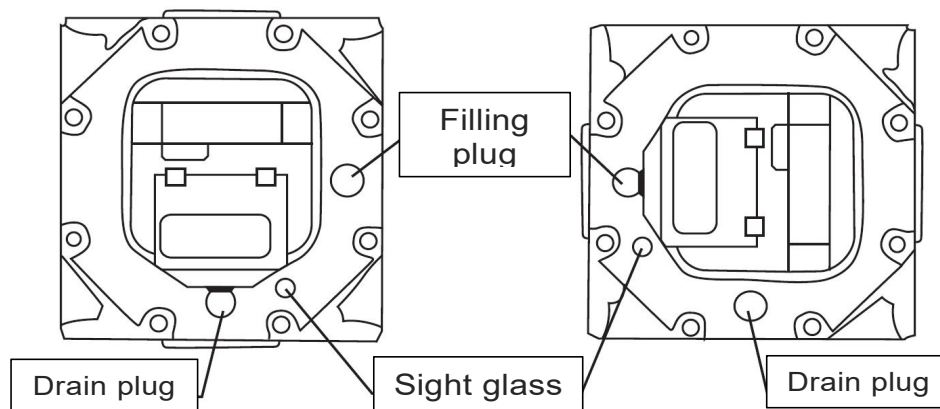

Figure 9 Oil filling and drain plug
- (1) Oil should be added before the meter's running.
- (2) The meter has two oil chambers (see Figure 9), which should be refueled separately.